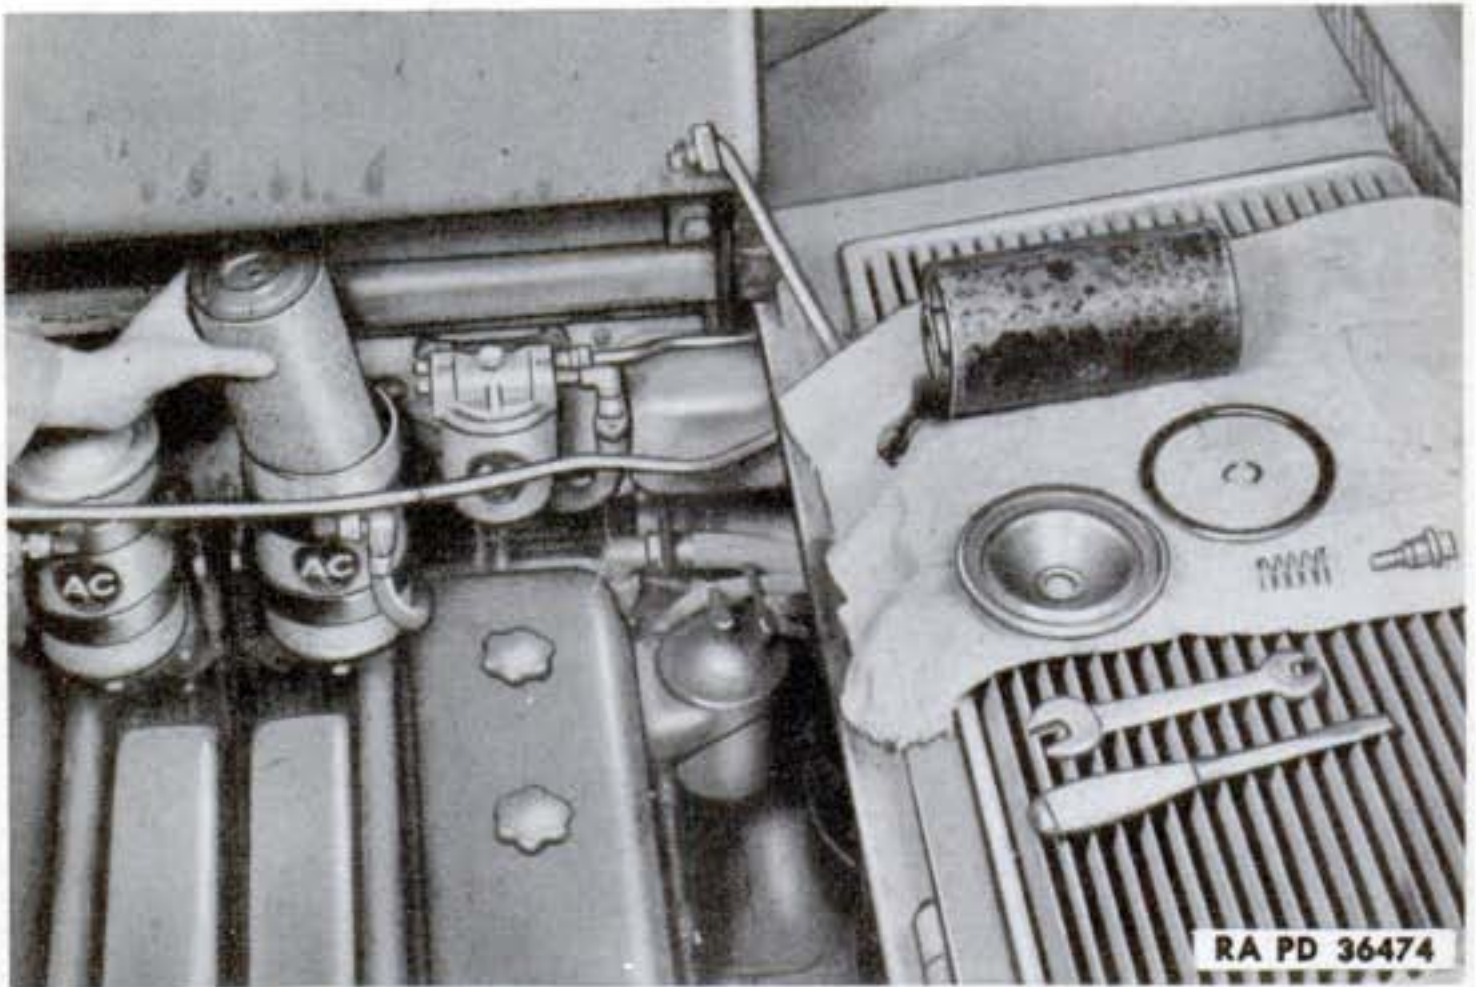

Figure 37—Replacing Engine Lubricating Oil Filter Element
b. **Replacing Engine Lubricating Oil Filter Element.** Unscrew retainer nut, remove gasket and cover. Lift out spring and element. Place suitable container under filter to catch oil and remove drain plug. Wipe inside of filter shell clean with cloth soaked in Diesel fuel. Install and tighten drain plug. Install new element, and position the spring (fig. 37). Remove old cover gasket, and install new gasket. Position cover and new retainer nut gasket. Screw retainer nut on, and tighten it. Start engine, and inspect for leaks.
c. **Removal of Engine Lubricating Oil Filter.** Open engine compartment doors, raise and lock splash panel. Place suitable container under filter to catch oil, and remove drain plug. Disconnect inlet hose from elbow on side, near top (fig. 37). Remove elbow from oil filter shell. Install and tighten drain plug. Remove four bolts and washers attaching filter to filter panel. Lay filter on engine. Disconnect outlet hose from elbow at bottom of shell, and remove elbow from filter.